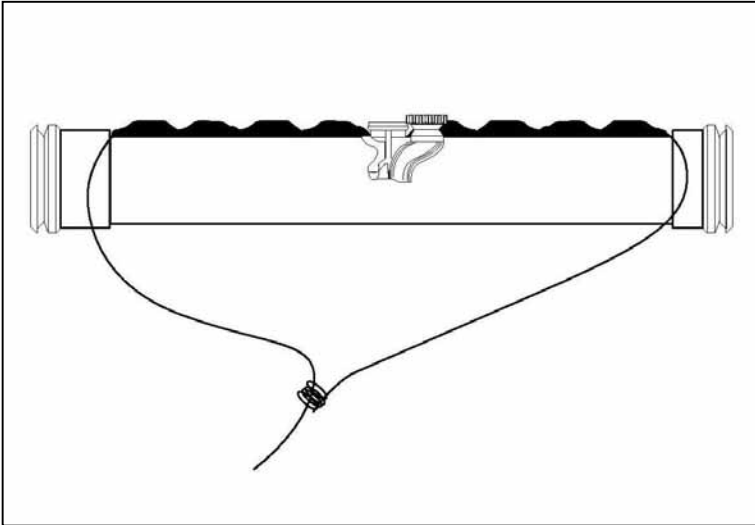

Figure 2-10-1: Demolition of an Encased Missile
- (1) Assemble four equal sets of charges by stacking two blocks of C4 on top of each other. Connect each pair together using tape and then lay the four sets in a line. Ensuring positive longitudinal contact between each set of charges tape them together to form one long charge consisting of all eight blocks (see Figure 2-10-1
- (2) Make a hole for the detonator near the top centre of the charge. Place the charge along the top of the missile case. Connect the detonator to the required length of safety fuse.
- (3) Before directly inserting the detonator into the charge, ensure that you have selected an accessible area that will provide sufficient cover. Finally, insert the detonator and light the scarfed end of the safety fuse, using the Match Fusee. Take cover immediately.